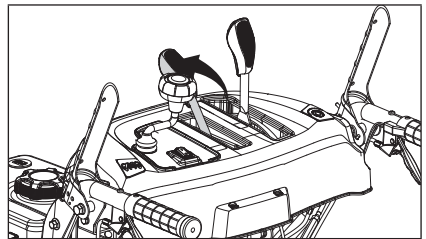

Figure 82
- Move the control all the way forward. (Fig. 82)